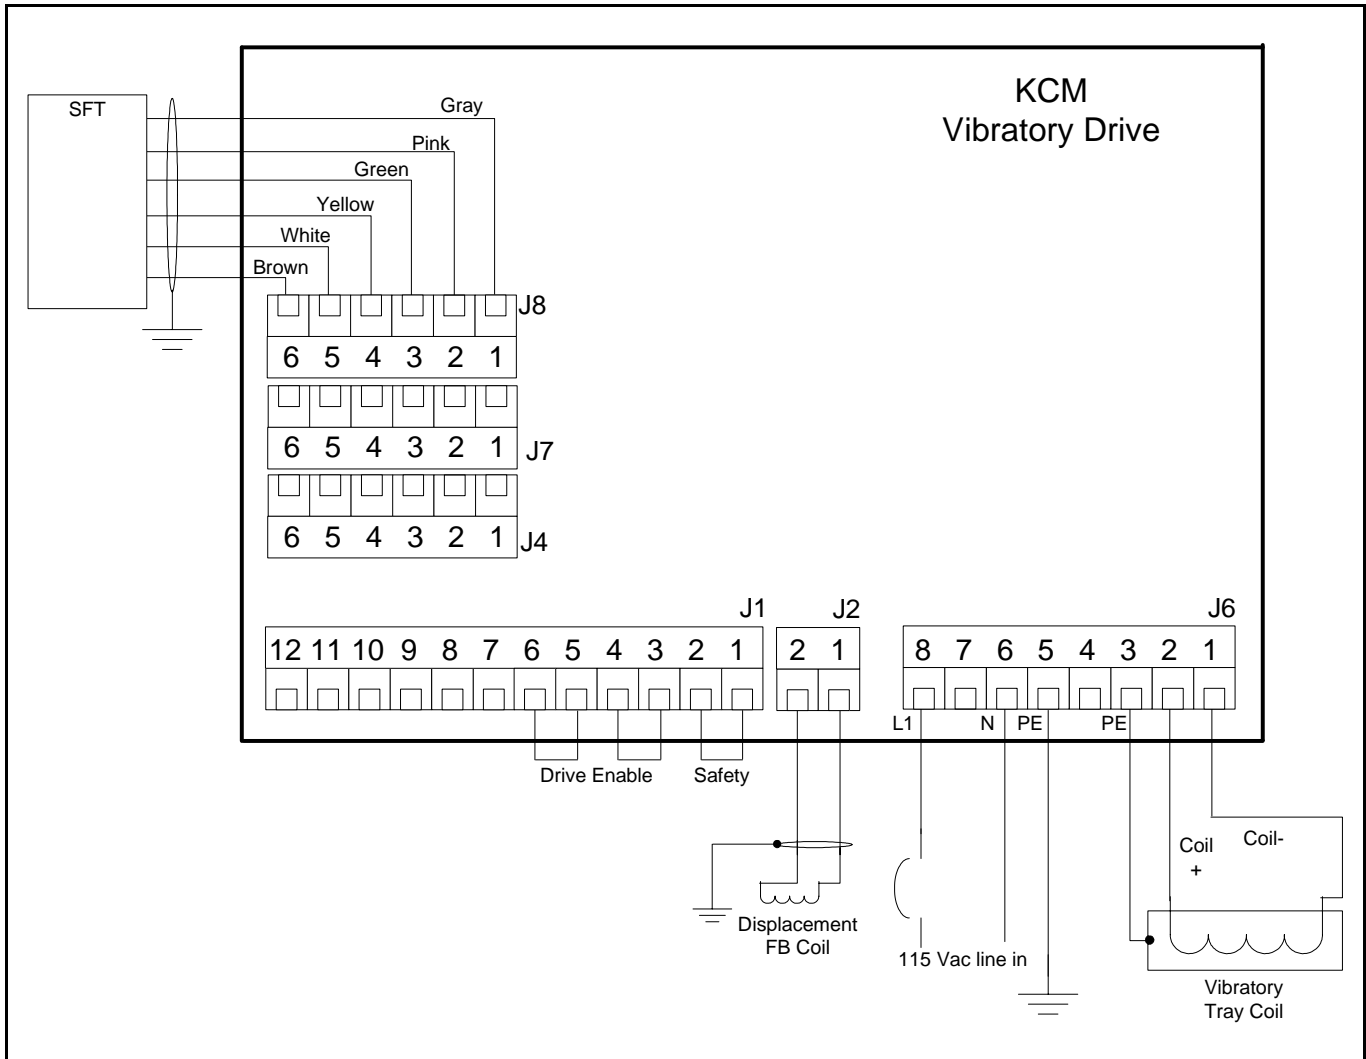

Fig. 12.11 KCM vibratory drive field wiring example
- Not all terminal blocks are shown in this example.(Fig.12.11)